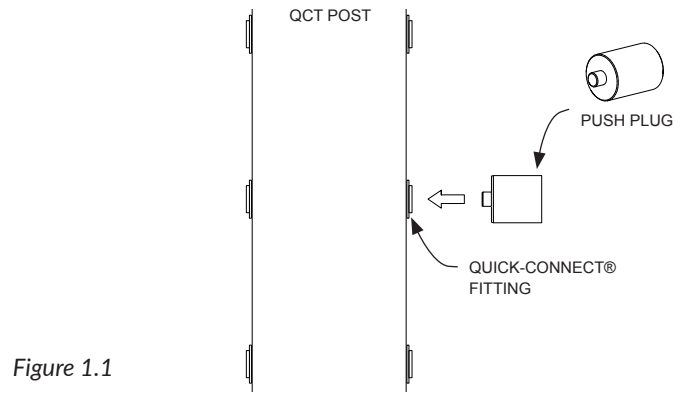

Figure 1.1
Insert the Push-Plug into each Quick-Connect® fitting prior to inserting the cables (See Figure 1.1).
*Note: Make sure you have reset each Quick-Connect® fitting, as shown in Figure 1.1.*